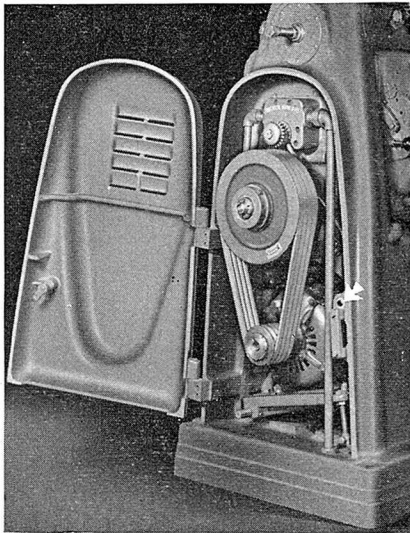

Figure 32
1. Open the hinged cover on the rear of the machine. (Fig. 32, page 45)
If you should decide to inspect the V-belts or the motor, and forget to shut off the electric current at the push-button station, the motor will stop as soon as the hinged cover at the rear of the machine is opened. The contact switch just above the latch bracket on the column, (indicated by arrow, Fig. 32) compensates for such an oversight by automatically breaking the circuit. When again starting the machine, it will be necessary, of course, to latch the cover and push the starting button.